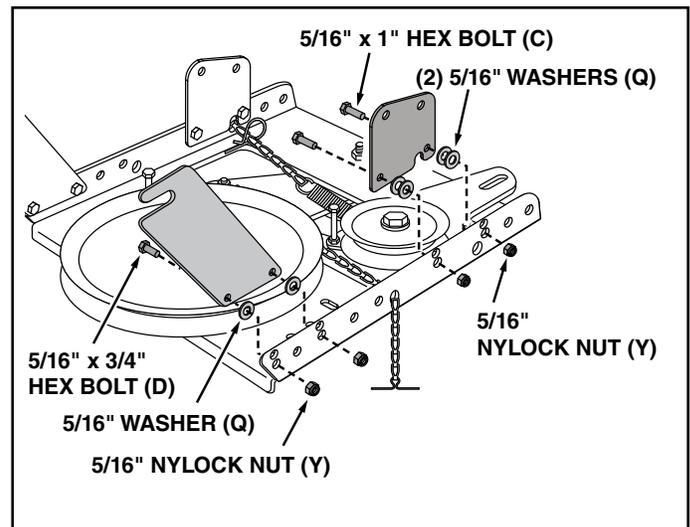

FIGURE 16
STEP 16: (SEE FIGURE 16)
- Using the lower set of holes attach each rear pulley frame bracket to the inside of the clutch/idler assembly using two 5/16" x 3/4" hex bolts (D), 5/16" washers (Q), and 5/16" nylock nuts (Y). **Use upper set of holes for Husqvarna TS200 with dual pedals.**
- Using the lower set of holes attach each front pulley frame bracket to the inside of the clutch/idler assembly using two 5/16" x 1" hex bolts (C), four 5/16" washers (Q), and two 5/16" nylock nuts (Y). **Use upper set of holes for Husqvarna TS200 with dual pedals.**